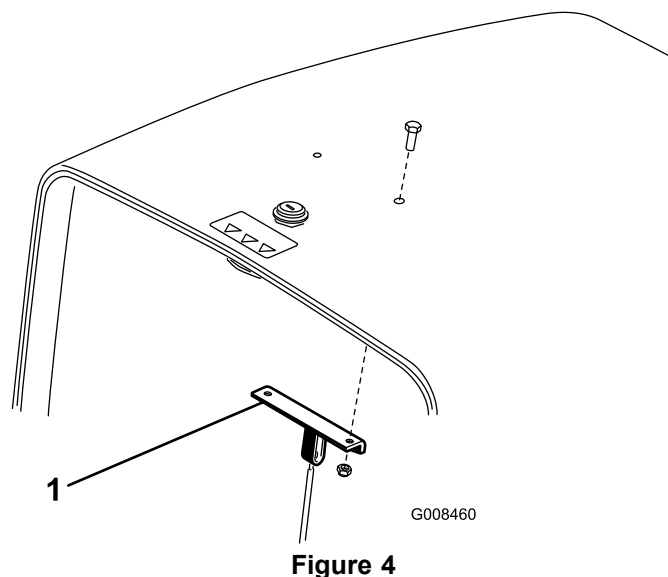

Figure 4
1. Remove and discard the (2) screws and nuts securing the hood cable bracket and to the underside of the hood (Figure 4).